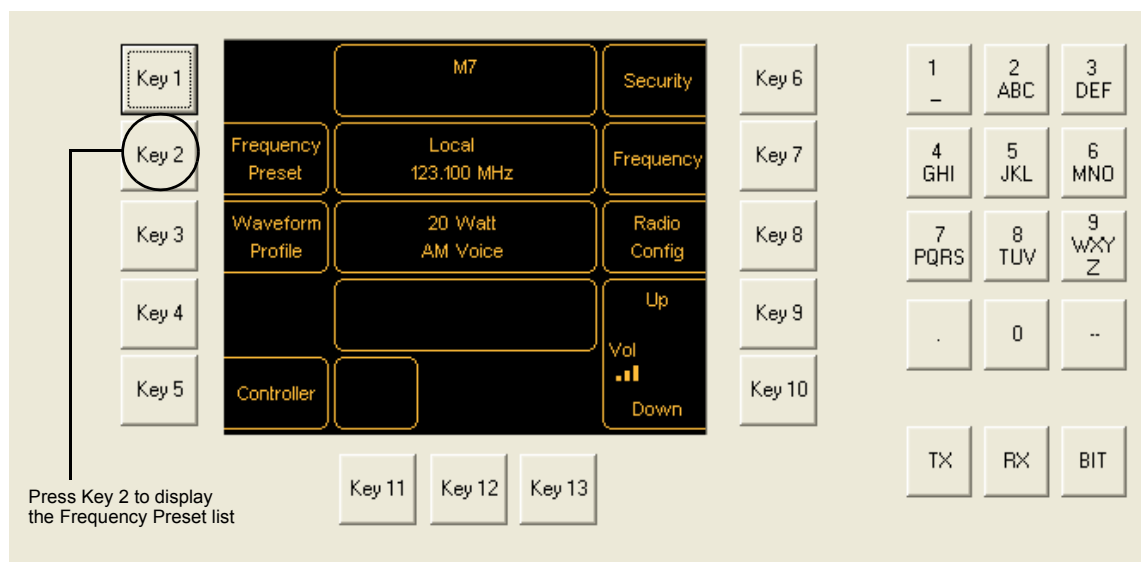

Fig 3-21 Select Frequency Presets from the Home Screen
- (1) From the Home screen (Fig 3-21) press **Key 2** to display the list of Frequency Presets.